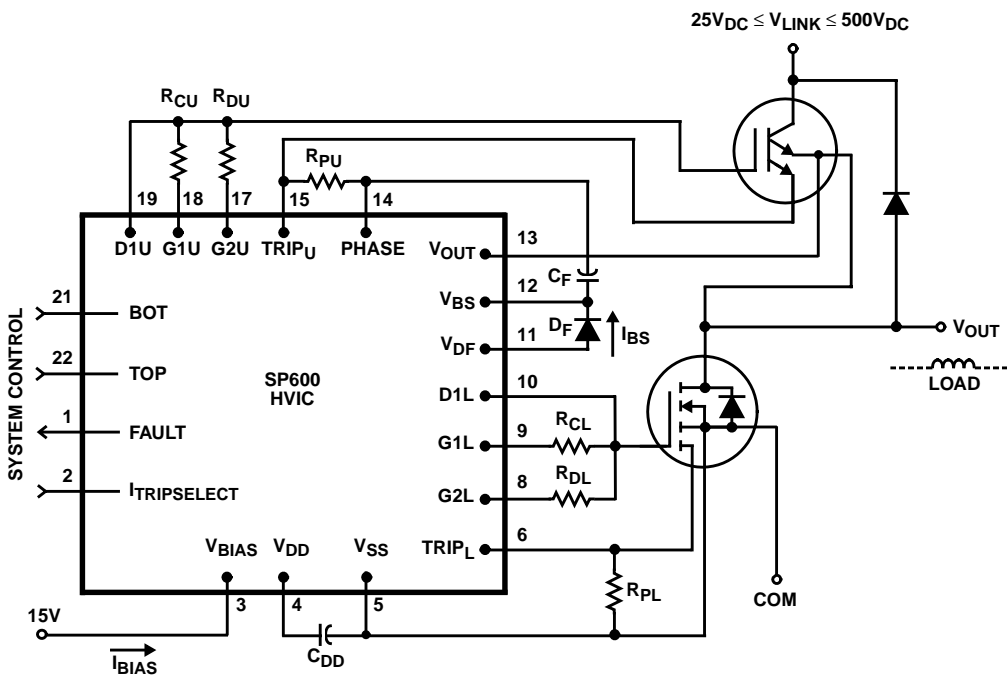

FIGURE 1. TYPICAL CIRCUIT CONFIGURATION
**Recommended Operating Conditions and Functional Pin Description** (All Voltages Referenced to  $V_{SS}$ , Unless Otherwise Noted. See Figure 1)
Applicable to Typical Circuit Configuration (Figure 1)